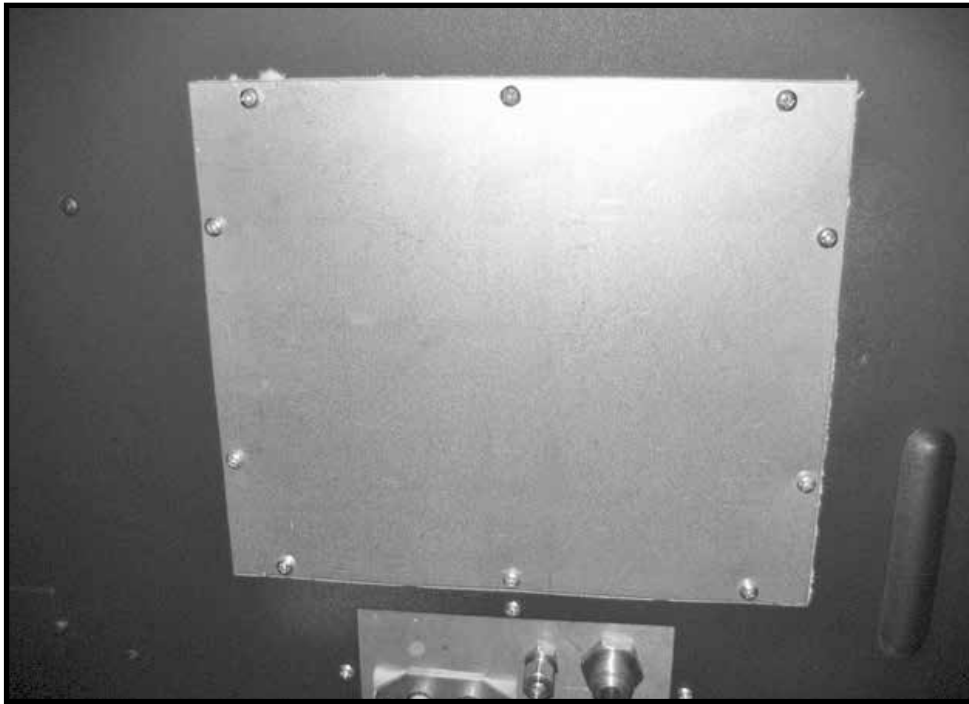

Figure 9: Replace access panel.
8. Re-install the access panel in the right side of the firebox (Figure 9).